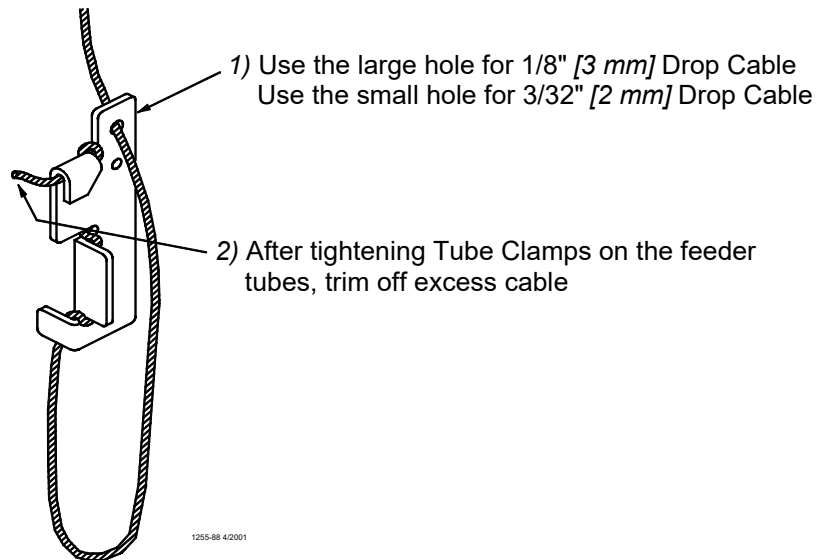

Figure 37. Cable Lock Threading
7. Install Adjustment Leveler within 6" [152 mm] of feeder line. **Figure 37** shows the proper cable routing around the Adjustment Leveler.
Finally, tighten the Tube Clamps on the feeder tubes. Clamp the joints securely, but do not crush the tubes. Re-adjust all Adjustment Levelers as needed and trim off excess cable as shown in **Figure 37**.